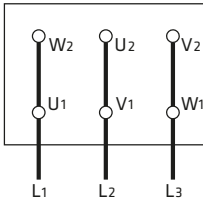

Figure 7a. Δ - connection
- The mains connection on the terminal box depends on the nominal power of the motor, the power supply and the type of connection. The necessary connection of the bridges in the terminal box is shown in the following (*Table 2 ve Figure 7a, 7b, 7c*).